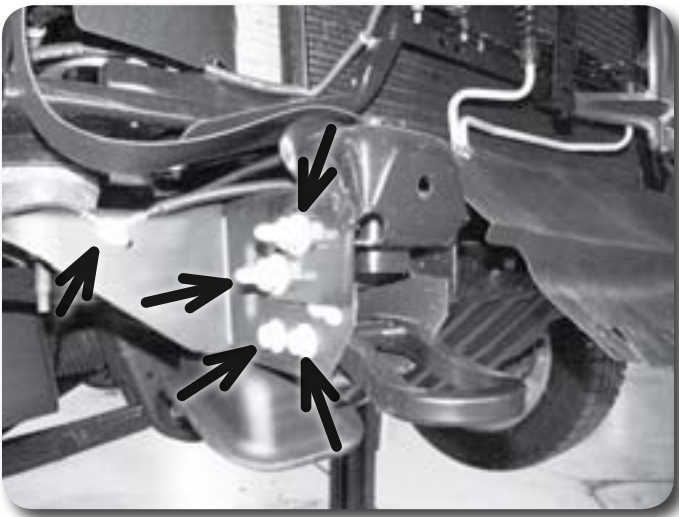

Figure 6
7. Make a small mark on each tow hook to indicate which side is up. Remove the tow hooks from the frame by removing the two (per hook) mounting bolts **Figure 6**. Save the mounting hardware and hooks.
8. Remove the factory front bumper brackets from the frame horns **Figure 6**. Save all hardware.
10. Disconnect the ground wire(s) from the passenger's side front body mount bracket **Figure 6**. Save bolt.